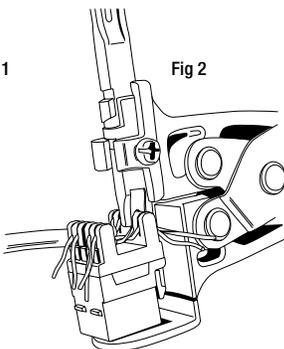

Fig 2
- 4) Once the jack fits snugly on the tool's base (Fig 2), continue to squeeze slowly, seating the conductor until it is seated & cut. Once cut, release handles. **Do not over squeeze!**